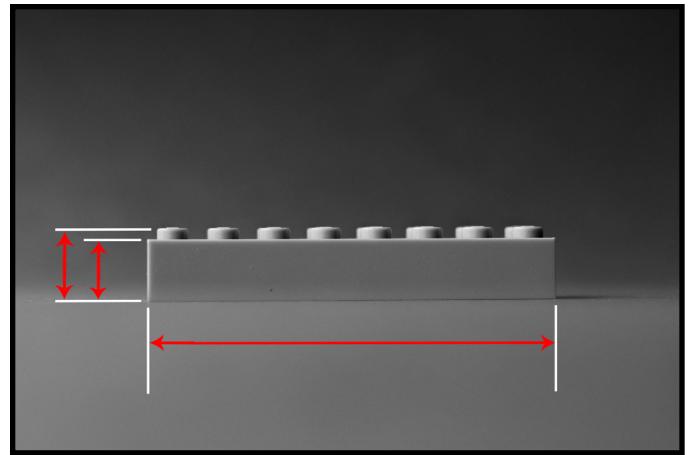

Figure 7.12 - Extension Lines with Arrows
Step 2 : Next, with the extension lines places, dimension lines connect between extension lines with closed arrowheads at either ends (see figure 7.12). Dimension lines should not overlap with any other line types, which can be tricky as objects increase in complexity. Do not draw a dimension line directly to an object or to a centerline. Dimension lines should be paired with extension lines and they can be stacked as shown in red to the right.